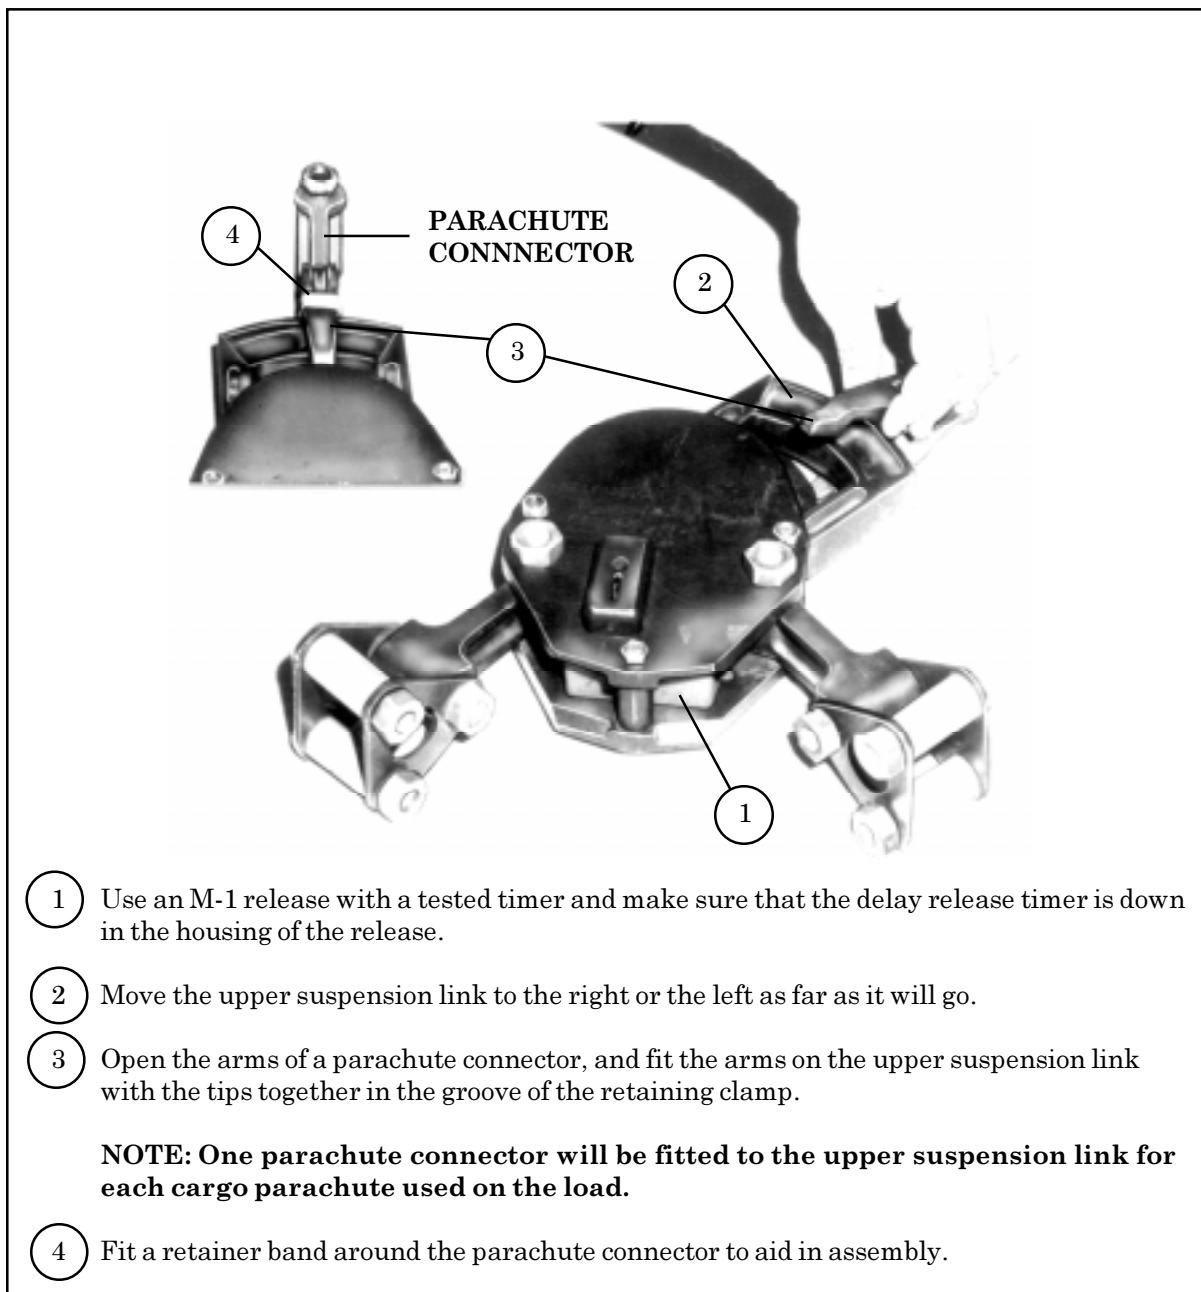

Figure 3-28. Parachute Connector Fitted to Upper Suspension Link of M-1 Release
- b. **Preparing, Attaching, and Safety Tying Release.** Prepare, attach, and safety tie the M-1 cargo parachute release as shown in Figures 3-28 through 3-30.